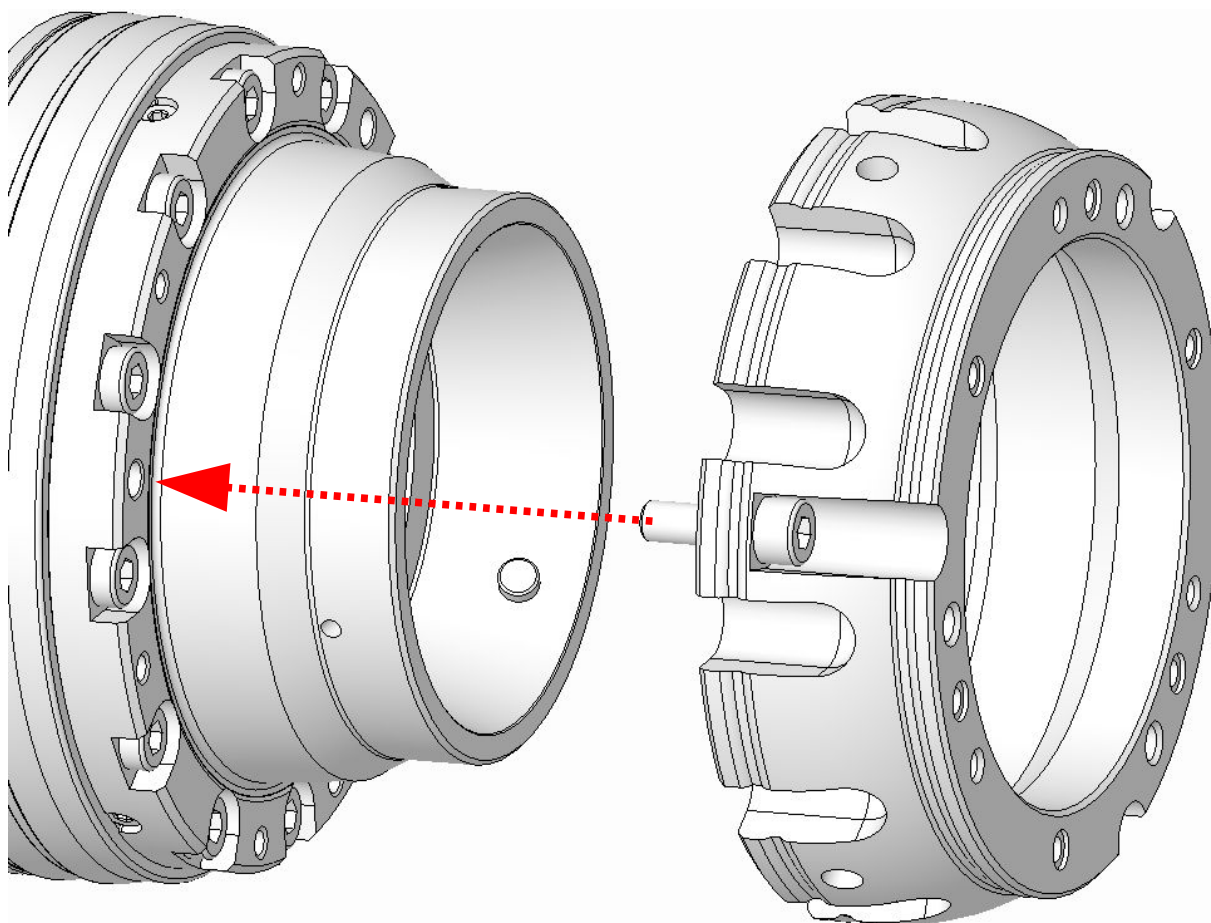

Fig. 16
4. Check whether the locking pin [Fig. 16/1] protrudes on the rear.